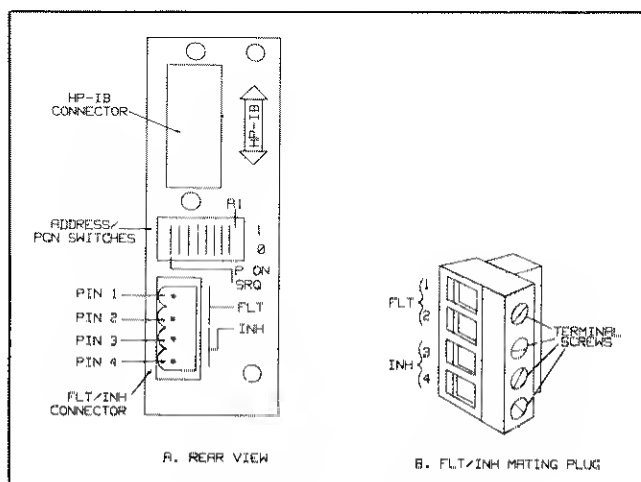

Figure 3-16. FLT/INH Connections
**3-222** The connections for FLT and INH are made through J8 which is located on the rear of the power supply just below the HP-IB address / PON selection switches. The connector (J8), is supplied with its mating plug which provides a convenient way to access the FLT and INH circuitry (see Figure 3-16). To remove the plug grip it firmly, then pull it straight out of J8. With a small screwdriver, loosen the terminal screws on the plug; connect the external FLT and/or INH circuitry, then install the plug back into the connector. Note that in order to prevent radio frequency interference (RFI), shielded or twisted pair wiring should be used for the FLT and INH connections. To prevent ground loops (if shielded wire is used) connect only one end of the shield to chassis ground. Several examples follow.